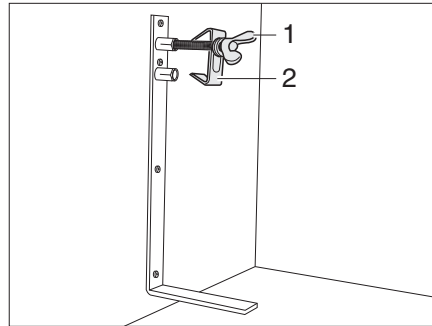

Fig. 162 Spare wheel support
- Loosen the screw (Fig. 162,1) and remove the centring device (Fig. 162,2).